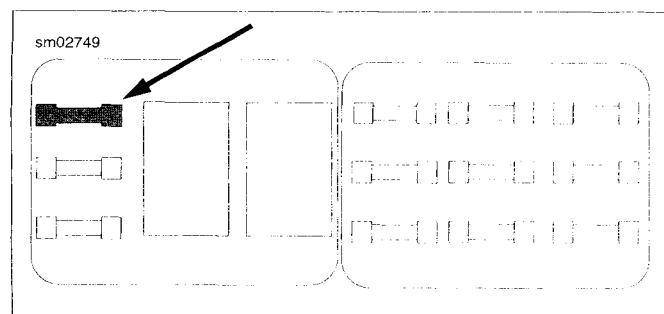

Figure 4-16. Fuel Pump Fuse: View from Top
- a. See Figure 4-16. Disconnect the fuel pump fuse from the main wiring harness.
6. See Figure 4-16. Install fuel pump fuse.